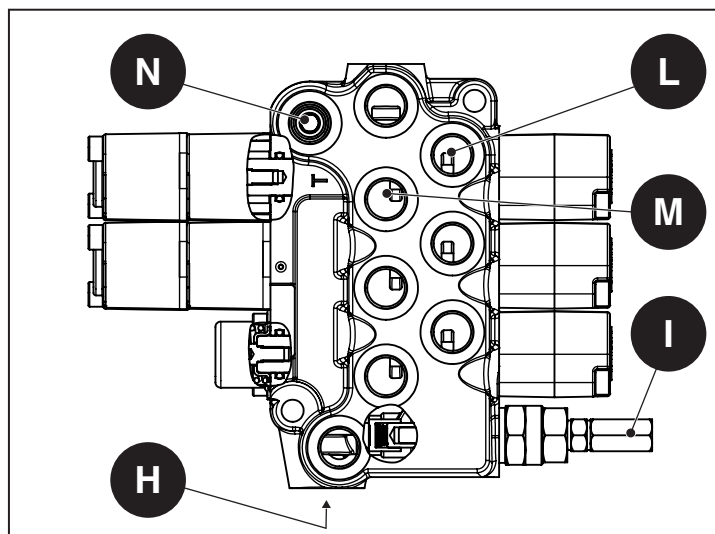

Fig. 9.13
Oil received from the priority valve flows into the inlet head (H), which is equipped with a pressure relief valve (I) calibrated to 150 bar. In response to movements of the distributor levers, oil is sent to the delivery (L) or return (M) hydraulic couplers. If no oil flow is requested from the distributors, the oil is sent to the rear auxiliary distributors (N, Fig. 9.13).